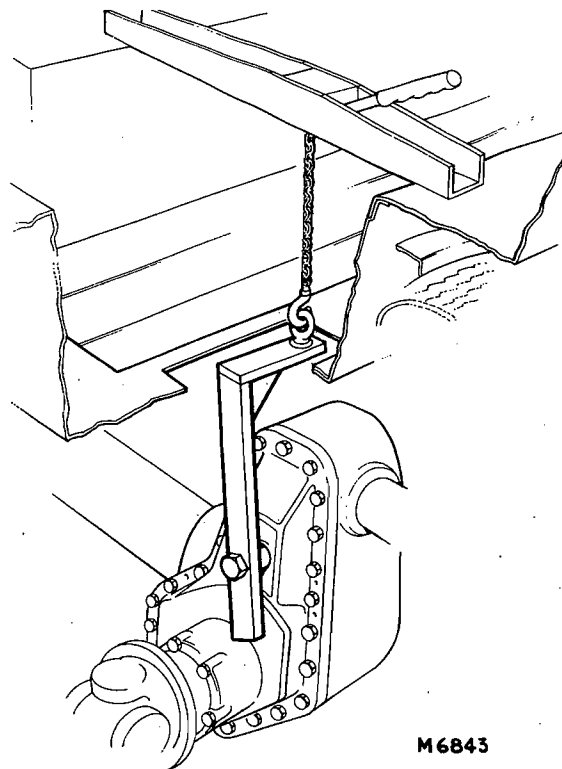

FIG. 1 LIFTING BRACKET APPLICATION
Manufacture a lifting bracket see Fig. 1, to the dimensions given in Group 1, Section 4.
8. Position tool made locally, as shown in Fig. 1 and using suitable lifting equipment take the weight of the driving head.